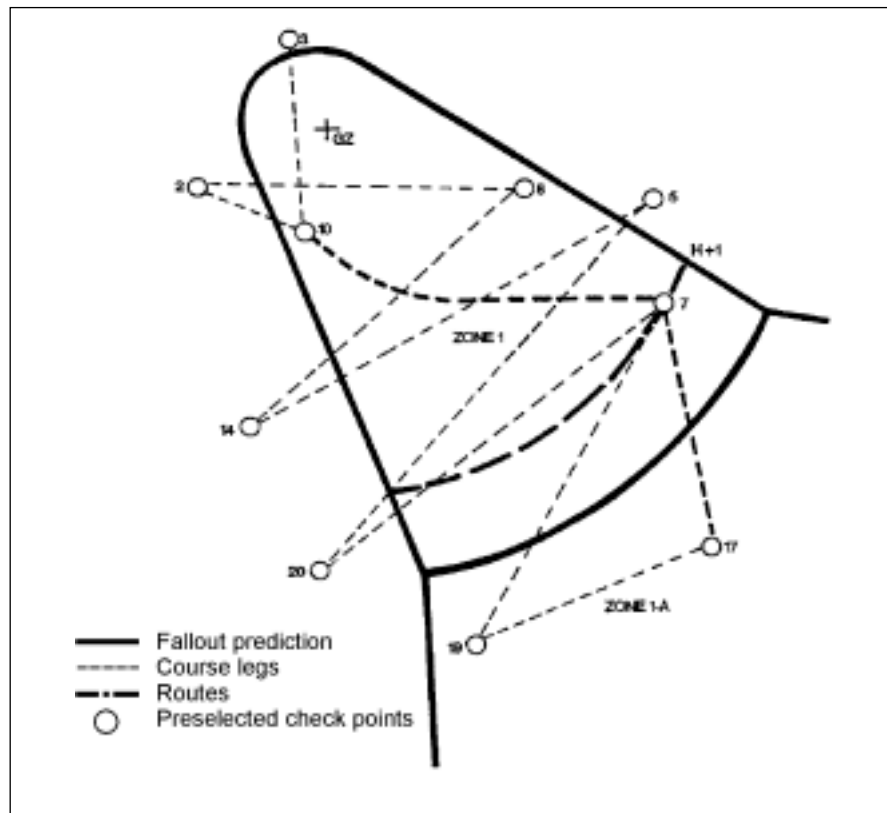

Fig 2-5. Fallout prediction and aerial survey overlay.
- (1) **Route**. The pilot flies between two checkpoints, following the route of some predominant terrain feature, such as a road that connects the two checkpoints (heavy dashed lines).
- (2) **Course leg**. The pilot flies a straight line course (a course leg) between two checkpoints (thin dashed lines).
b. Planning aerial surveys. Use a checkpoint overlay to plan a survey. After you establish survey requirements, the control center selects a series of course legs, routes, and points where data will furnish sufficient ground dose rate information to evaluate the contaminated area. Figure 2-5 shows an overlay plan for an aerial survey. Use this overlay over a map of the area you want to survey to obtain the checkpoint coordinates. Figure 2-6 illustrates a division area with selected checkpoints. Here are two types of aerial surveys.
(1) Detailed aerial survey. Since simplified aerial survey information and monitoring reports don't normally provide sufficient information for the preparation of the detailed radiological contamination overlay, a detailed aerial survey is usually required. Battlefield conditions or the operational situation may preclude the preparation of the detailed radiological contamination overlay, and a simplified radiological contamination overlay may then be needed to satisfy the commander's requirements. A simplified aerial survey will normally be required to complete the overlay.